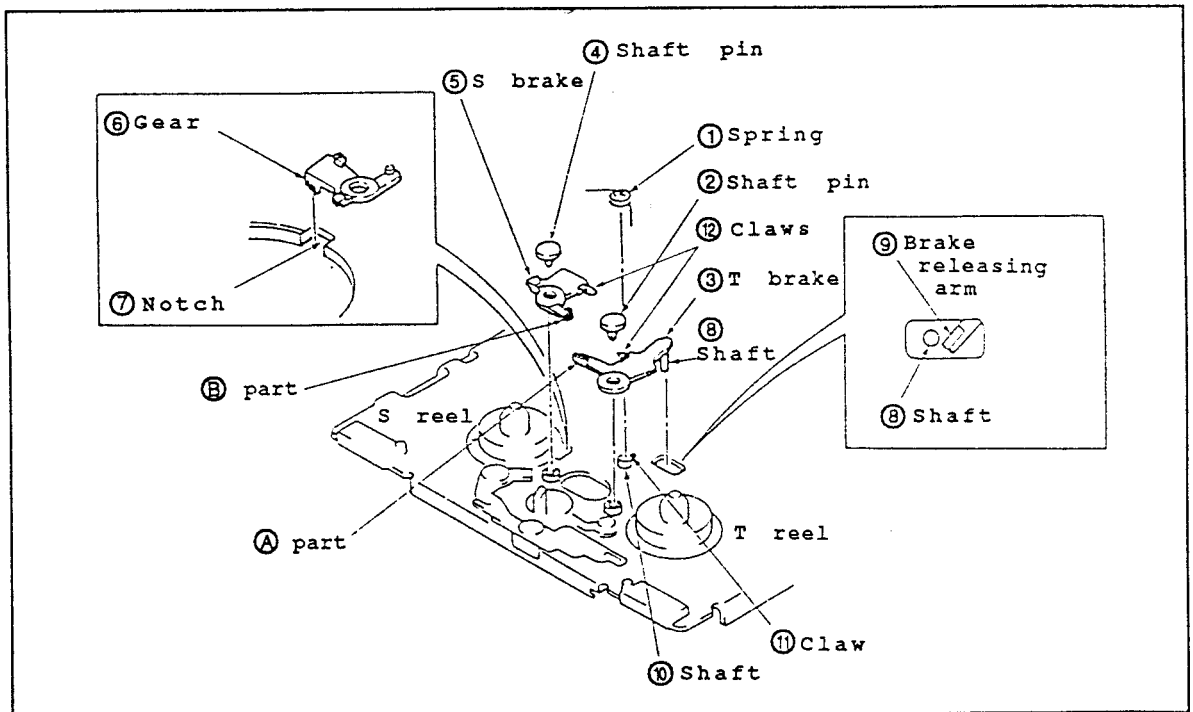

Fig.II-10
#### • Disassembling (Fig.II-10)
#### • Reassembling (Fig.II-10)
- Disassembling (Fig.II-10)
- (1) To take off the TL plate ②, remove the screw ①.
- (2) To take off the LB brake ④, remove the shaft pin ③.
- (3) To take off the LB lever ⑥, remove the shaft pin ⑤.